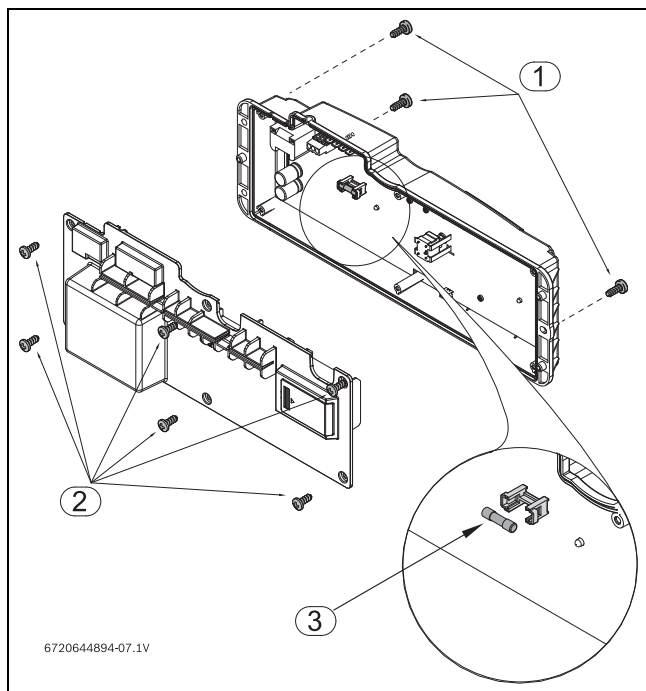

Fig. 44 Fuses position
- Remove the six screws from the back cover of the control unit, see fig. 44, pos. 2.
► Check the fuses in the printed circuit board, see fig. 44, pos. 3.